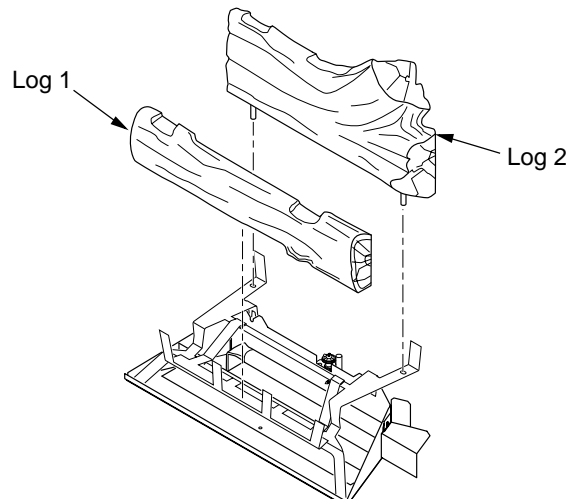

Figure 23 - Installing Logs 1 and 2
1. Place front (log 1) onto front of grate sliding log all the way forward against grate fingers (see Figure 23).
2. Insert pegs on bottom of rear log (log 2) into holes in rear of grate (see Figure 23).